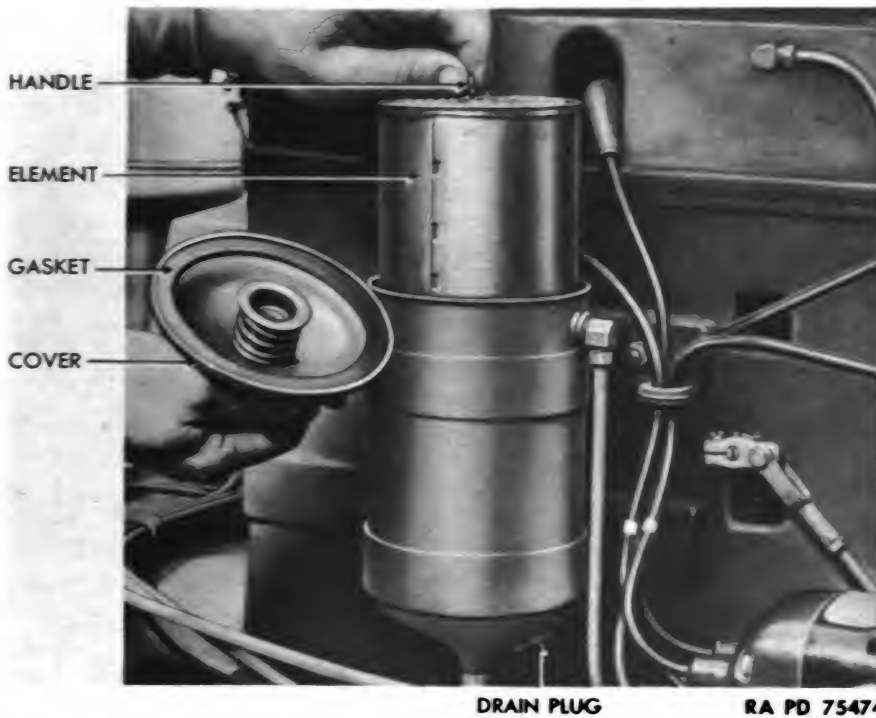

Figure 40 – Removing Compressor Unit Engine Oil Filter Element
- (6) LUBRICATION SYSTEM.
- (a) *Removal of Oil Filter Element* (fig. 40).
(b) Installation of Oil Filter Element (fig. 40).